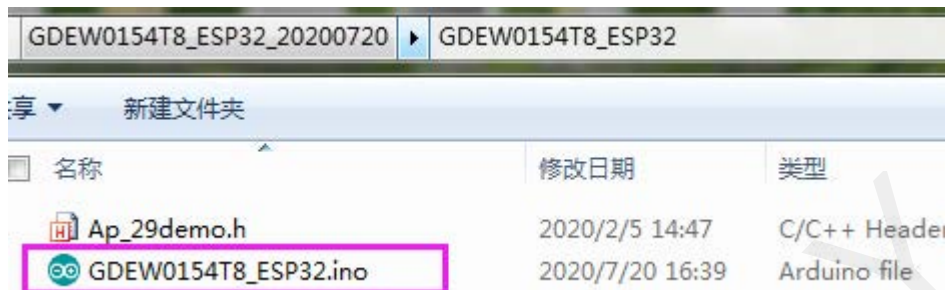

Figure 6 : Open Arduino.ino
3. Open Arduino in the driver folder shown in Figure 6 with Arduino 1.8.6 ino engineering document.